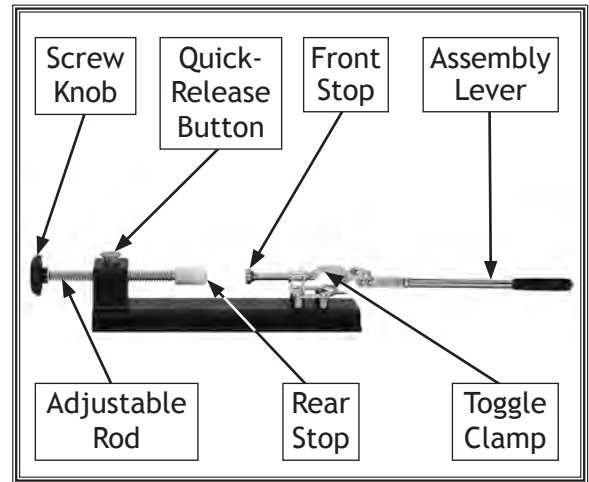

Figure 6. Pen press components.
2. Move assembly lever to horizontal position to open toggle clamp (see **Figure 6**).